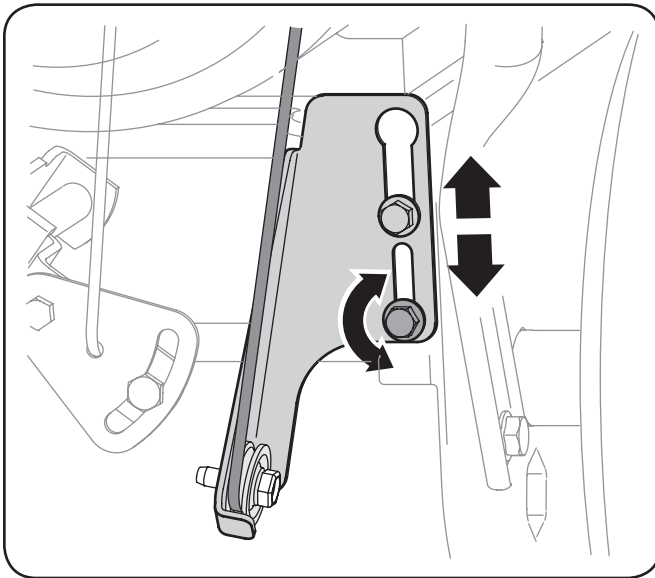

Figure 6-5
5. Loosen the lower hex nut on the drive cable bracket. See Fig. 6-5.